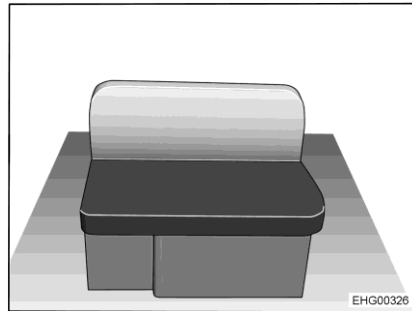

Fig. 32 Divan, on the right
- Remove the seat cushion and the back cushion from the divan (Fig. 32).